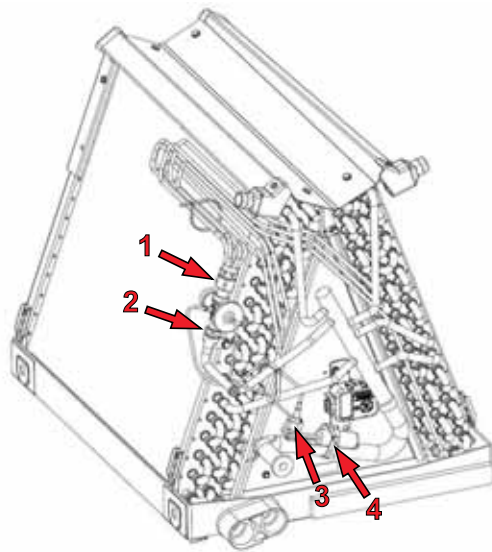

Fig. 14 – Mechanical TXV Removal
**NOTE:** For Item #1 (Fig. 14): Use an adjustable wrench with a backup adjustable wrench to loosen the brass nut (TXV outlet). Then use both wrenches to loosen Item # 2 (TXV inlet).